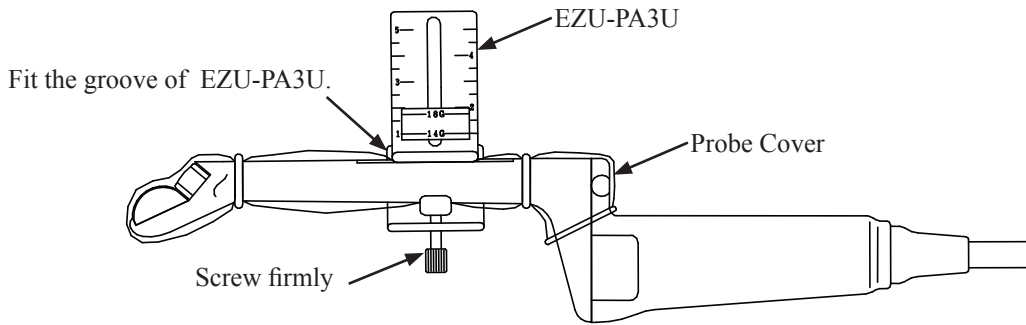
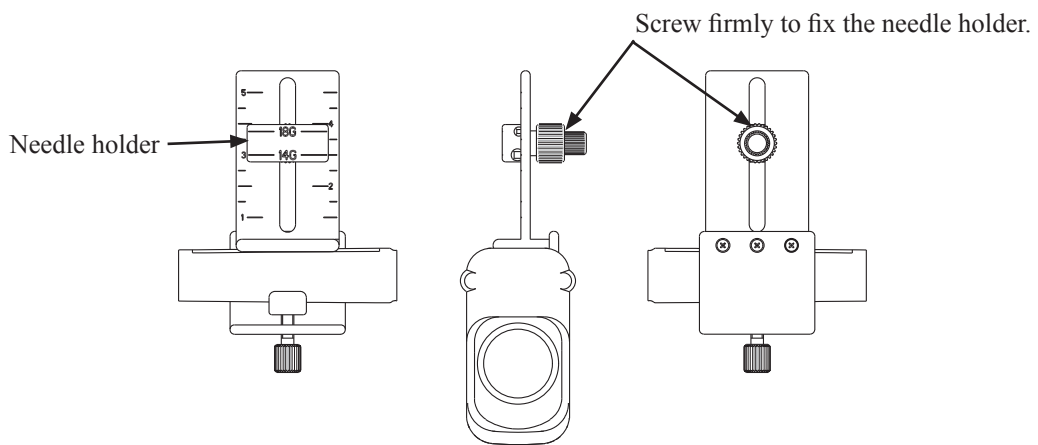

Figure 6 How to attach Puncture Guide Fixture
Figure 7 Adjustment of the needle holder
- (1) Mount a probe cover on the probe as stated in the section 4-1.
- (2) Fit the groove of the puncture guide fixture to the projection on the probe (Figure 6).
- (3) Screw the puncture guide fixture to attach to the probe firmly. Visually inspect that there is no hole in the probe cover.
- (4) Fix the needle holder at the intended position (Figure 7).